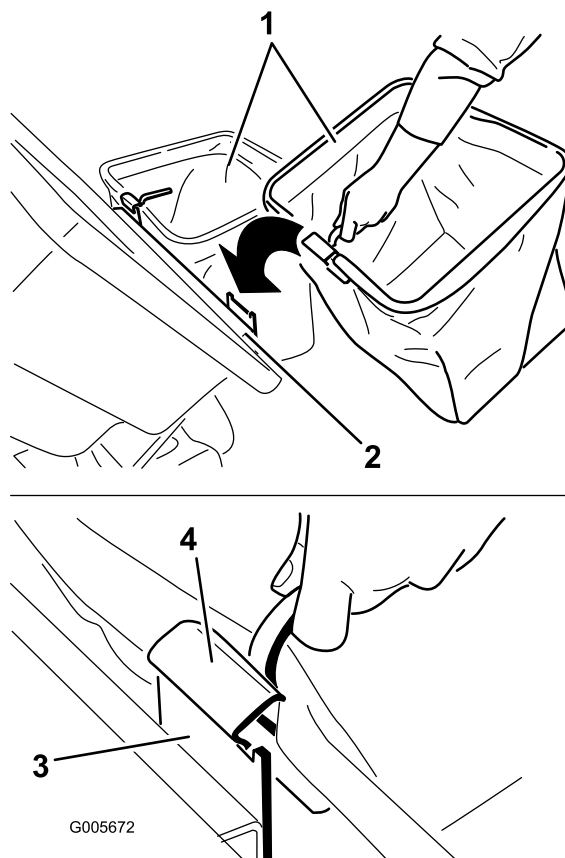

Figure 10
- Lift the bagger top and install the bags by sliding the bag frame hooks onto the retaining brackets (Figure 10).